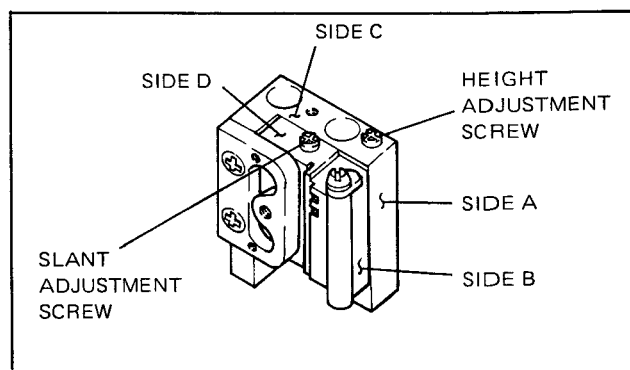

Fig. 6-27. Slant and Height Adjustment of Entrance Slant Guide
13. Turn the slant adjustment screw so that the "B" side is in parallel with "A" side (see Fig. 6-27).